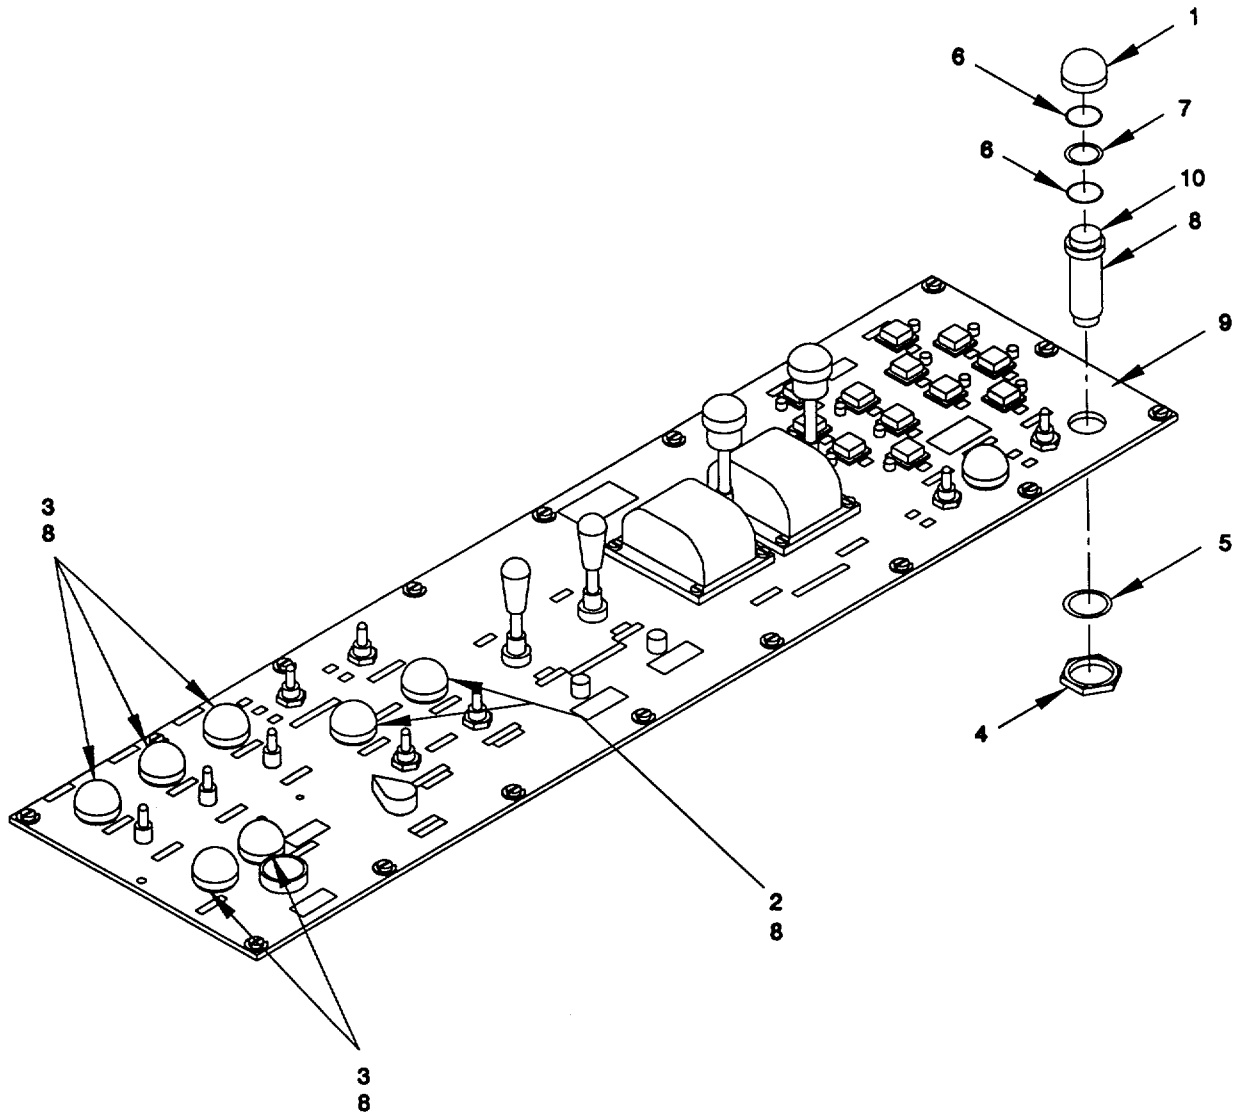

Figure 2-126. Indicators, Lower Control Panel "A2", Remove/Install.
a. *Remove.* (figure 2-126)
- (1) Tag and disconnect electrical wiring to indicator base (8). Refer to Appendix G.
- (2) For removal of the indicator bases (8) (P/S flooding alarm port and starboard indicators DS8 and DS9, P/S vent fan indicator DS6 and DS7, P/S clutch engaged indicator DS4 and DS5, P/S fire alarm indicators DS1 and DS3 and flood alarm indicator DS2), remove hex nut (4) and washer (5) (supplied with the indicator base (8)) from the underside of the lower control panel (9).
- (3) Remove the green caps (1), amber caps (2), and red caps (3), seals (6) and washers (7) from the indicator (8). Remove indicator base (8) from lower control panel (9).
- (4) Remove lamp (10) from indicator base (8).
b. *Install.* (figure 2-126)
- (1) Position the indicator bases (6) (P/S flooding alarm port and starboard indicators DS8 and DS9, P/S vent fan indicator DS6 and DS7, P/S clutch engaged indicator DS4 and DS5, P/S fire alarm indicators DS1 and DS3, and flood alarm indicator DS2) through the underside of the lower control panel (8). Install lamp (10) in indicator base (8).
- (2) Replace the two seals (6), washer (7) and green caps (1), amber caps (2), and red caps (3).
- (3) Secure indicator base (8) with washer (5) and hex nut (4).
- (4) Reconnect electrical wiring, as tagged, to indicator base (8). Refer to Appendix G. Use tie wraps and mounting bases to secure any loose wiring.